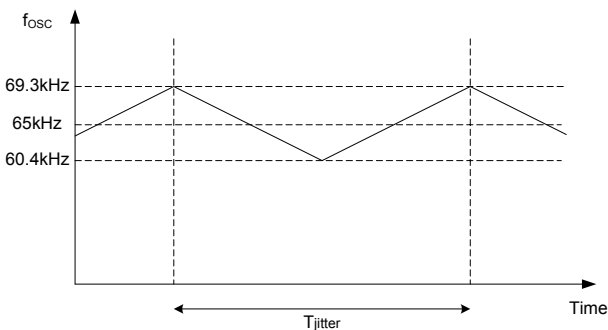

Figure 3: Frequency Jitter
A controlled current sourced (fixed at $2.72\mu\text{A}$ when $V_{FB}=2\text{V}$) charges the internal 14pF capacitor. Comparing the capacitor voltage to the TIMER voltage estimates the switching frequency as per equation (1). V_{TIMER} is a triangular wave that ranges between 2.8V and 3.2V with a charging/ discharging current of $10\mu\text{A}$. Figure 3 shows the frequency jitter, τ_{jitter} , as per equation (2).